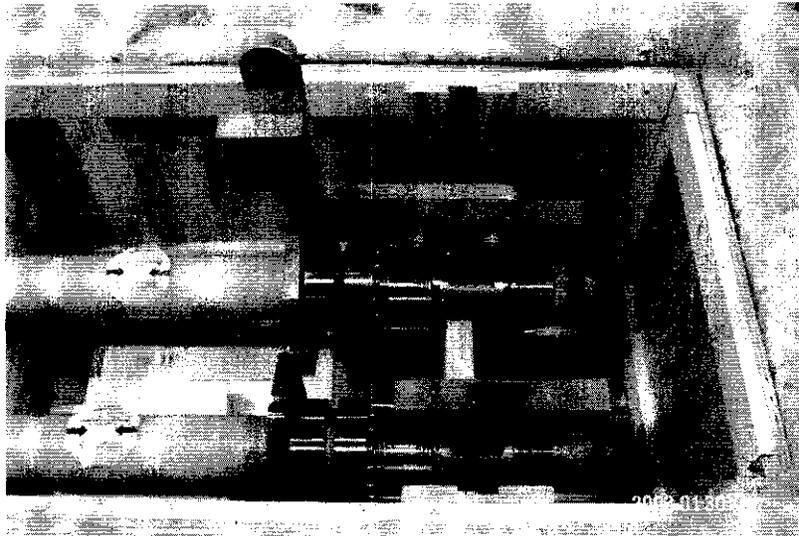

Figure 1.6 The lifting/insertion tool bolted to a power lead in preparation for removing it from the shipping container.
- 1.6 Attach the lifting/insertion tool to the lead flag as shown in Figure 1.6 and remove the lead from the shipping container.